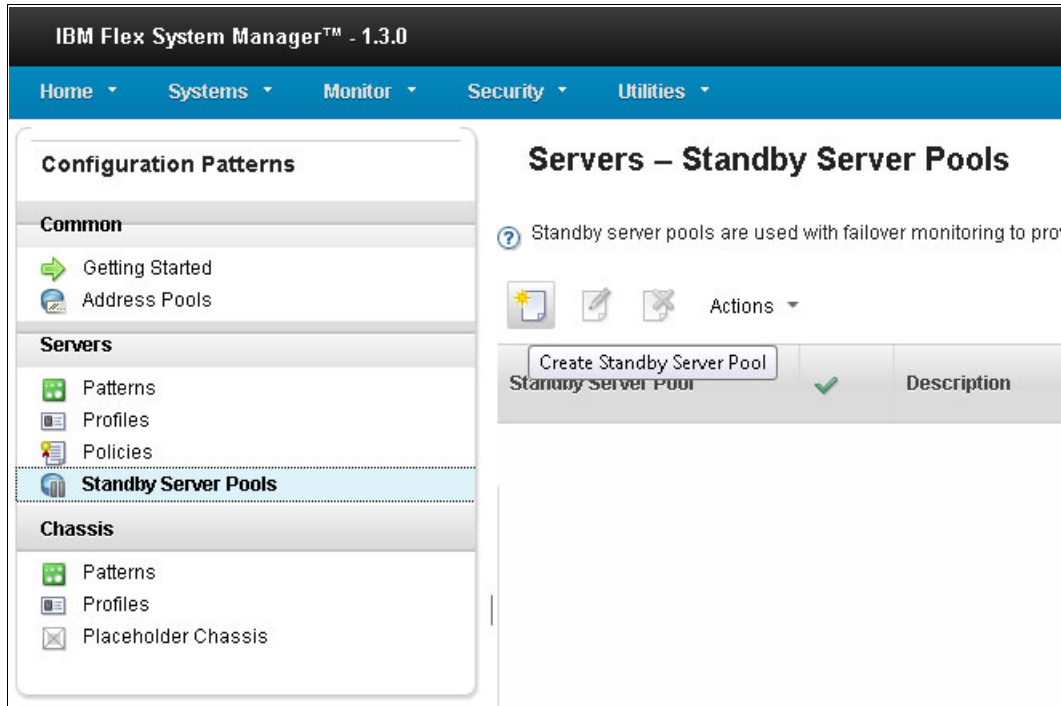

Figure 6-52 Creating a new standby server pool
4. Choose servers to be in the standby pool by selecting **Standby Server Pools** under **Servers** in the left column as shown in Figure 6-52.